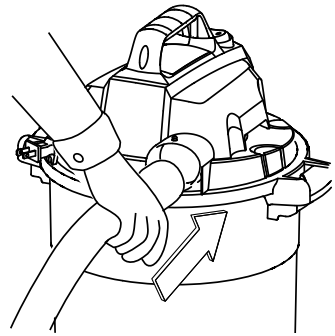

Fig. 6
13. Insert the larger end of the hose **11** into the blower port **1** on the back of the power head and lock into place. **Fig. 6.**